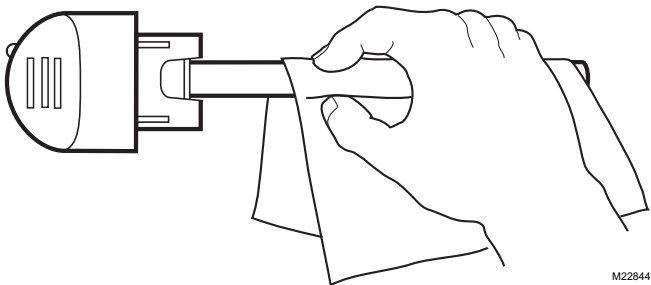

Fig. 6. Clean glass with soft cloth.
4. Holding the lamp handle, wipe the lamp glass using a soft cloth dampened with glass cleaner. If you touch the lamp glass with your hands, be sure to clean the area of any oils left from bare hands. See Fig. 6.